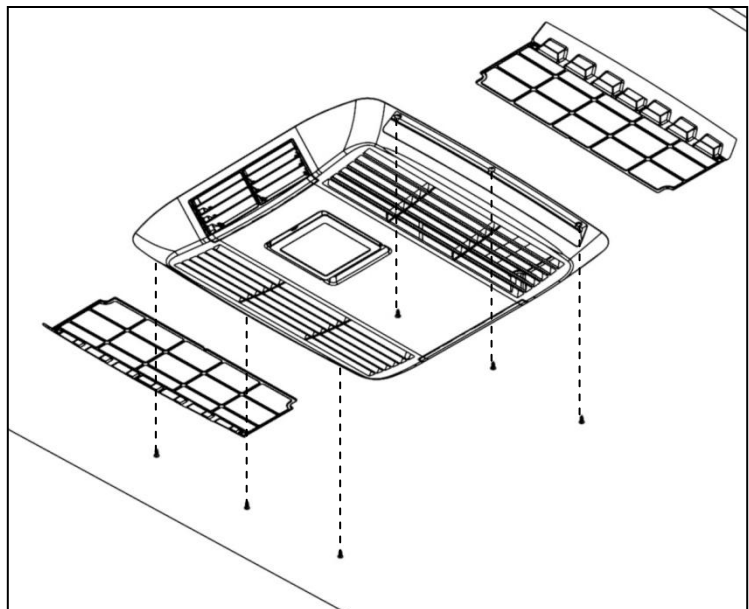

Fig 16: Remove the plenum filters and use the six self tapping screws to secure the plenum over to the ceiling of the caravan. Be sure not to over tighten.
- Remove the filter elements by pulling them out of the plenum, and use the six self tapping counter sunk screws to secure the covers edges to the caravan ceiling (Fig 16). In some instances a very small pilot hole may need to be drilled to guide the screws into place.